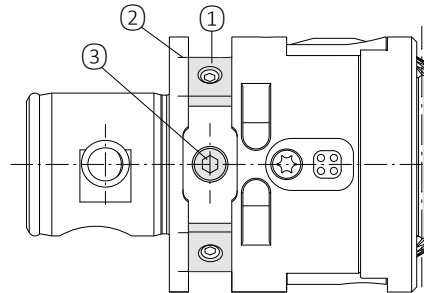

Fig. 11
**4.3 Balancing (Fig. 11)**
**screw plug ③ (Fig.11) in the balancing groove inlet.**